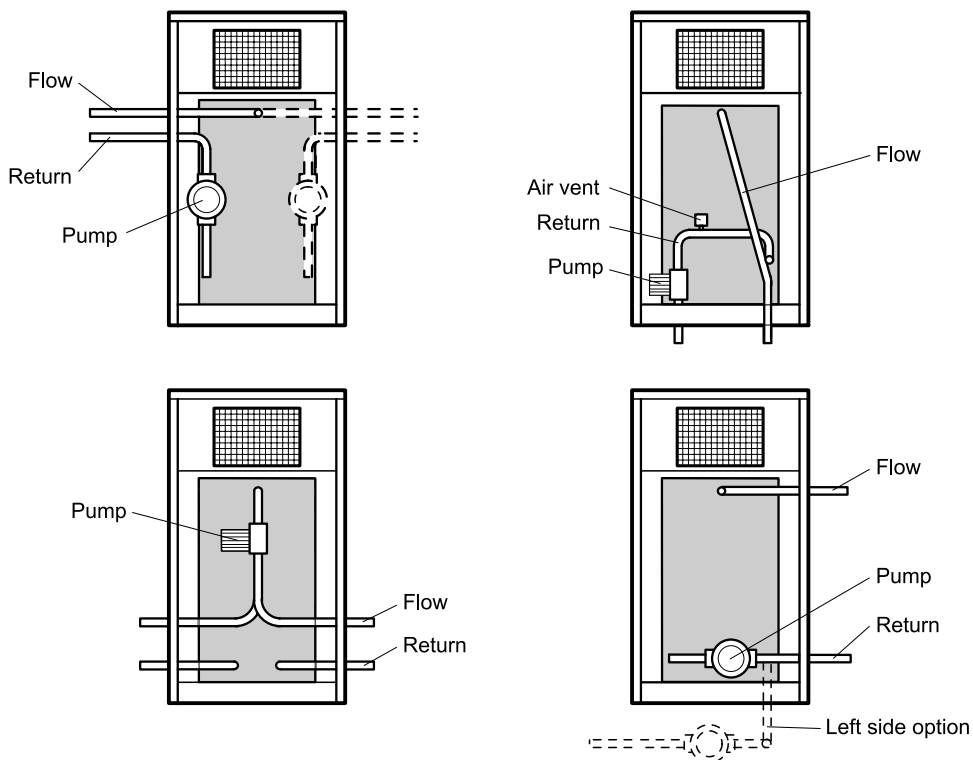

Fig. 14 - 50/70, 70/90 and 90/120 Water connections
See Fig. 14 or 14a
- 4 Connect the free end of the flexible hose to the expansion vessel, ensuring that the red sealing washer provided is fitted. Tighten the union nut on the flexible hose and place the expansion vessel on top of the boiler heat exchanger. See Fig. 14.
- 5 Fit the pressure relief valve discharge pipe. See Fig. 14.